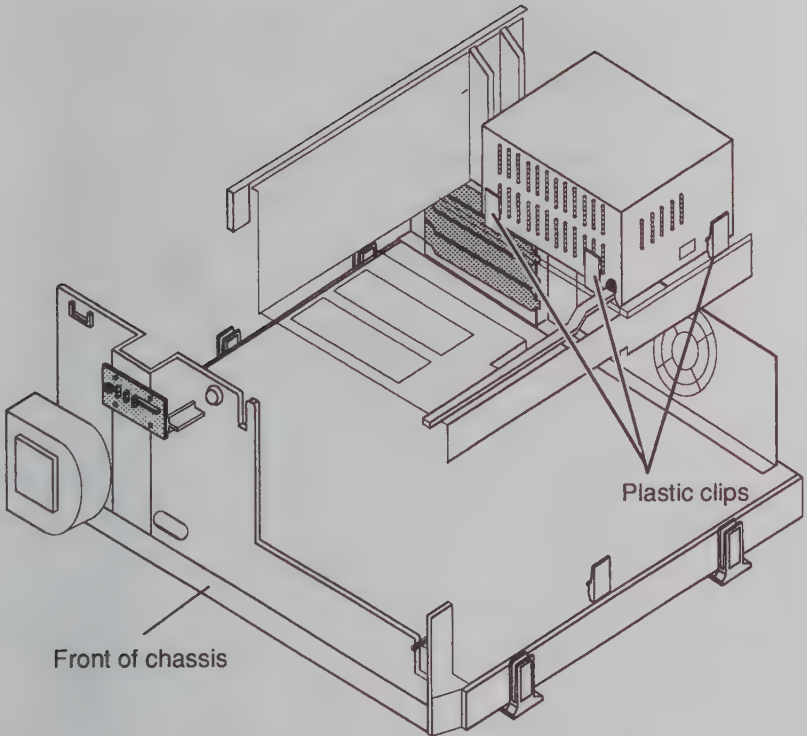

Figure 6 Releasing the Power Supply Assembly
4. Gently release the plastic clip near the right center of the power supply assembly (which also contains the primary fixed disk drive). See Figure 6.